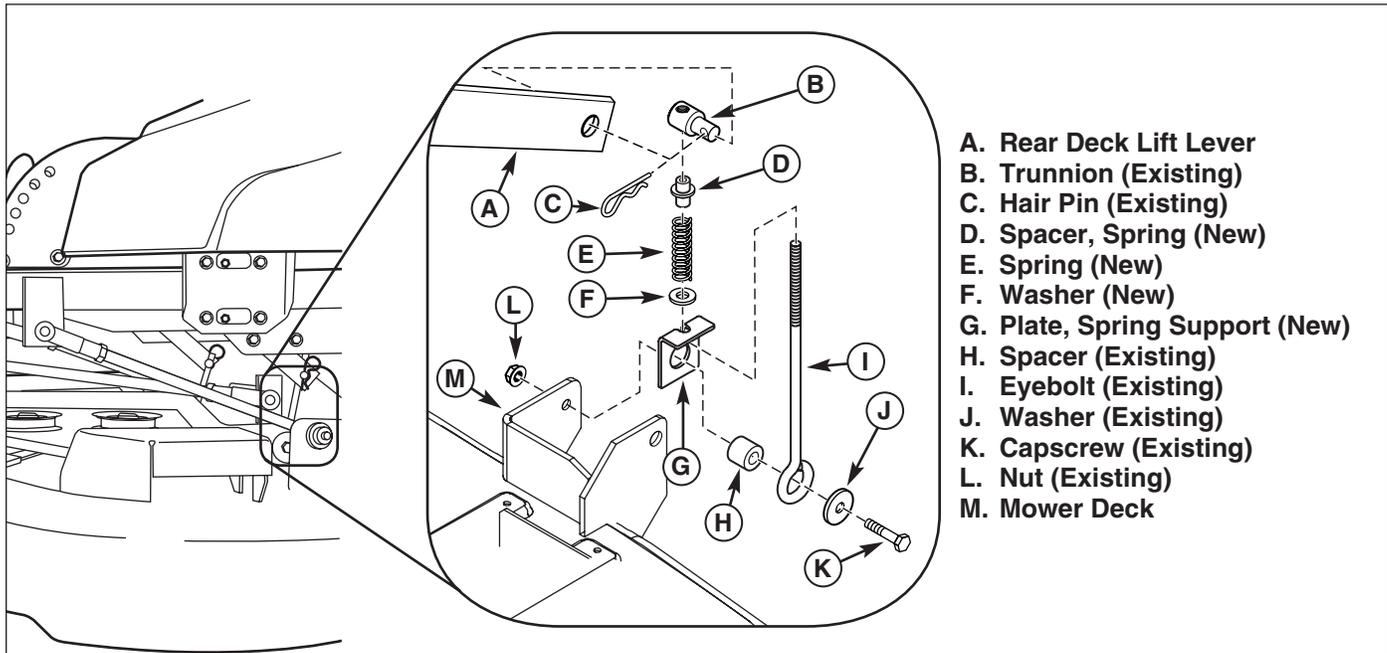

Figure 1. Counter Balance Installation
1. Remove hair pin (C, Figure 1) from trunnion (B). Remove trunnion (B) from rear deck lift lever (A). Mark or measure trunnion position on rear deck lift lever. Remove trunnion (B) from eyebolt (I).
2. Remove capscrew (K), washer (J), eyebolt (I), spacer (H) and nut (L) from mower deck (M).
3. Thread eyebolt (I) through plate (G) as shown.
4. Attach capscrew (K), washer (J), eyebolt (I), spacer (H), to mower deck (M) securing with nut (L).
5. Slide washer (F), spring (E), and spacer (D) onto eyebolt (I) as shown.
6. Install trunnion (B) onto eyebolt (I) to position of measurement or mark from step 1.
7. Install trunnion (B) into rear deck lift lever (A) secure with hair pin (C). Check deck leveling as described in Operators Manual and make necessary adjustments.